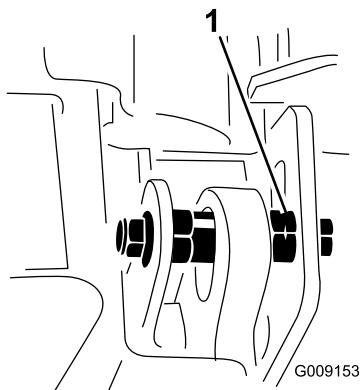

**Figure 7**
- Loosen the bolts and nuts securing the two eccentric spacers to the winglets (Figure 7).
- Rotate the rear (closest to traction unit) eccentric until the outside blade tip is about 1/8 inch higher than the desired height of cut (Figure 7).